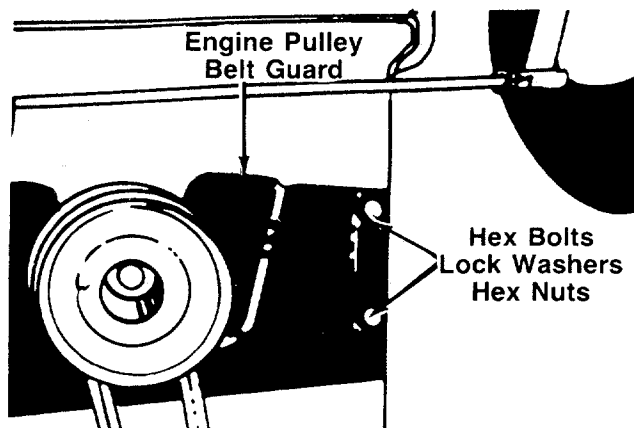

FIGURE 23.
- Remove the two bolts, lock washers and nuts on each side of the frame which hold the engine pulley belt guard to the frame. See figure 23.